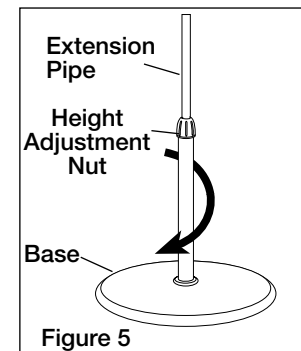

Figure 5
5. With a twisting motion, insert the end of the large diameter pipe into hole in Base. (Figure 5) Turning pipe while pushing will assure pipe is fully seated in Base.